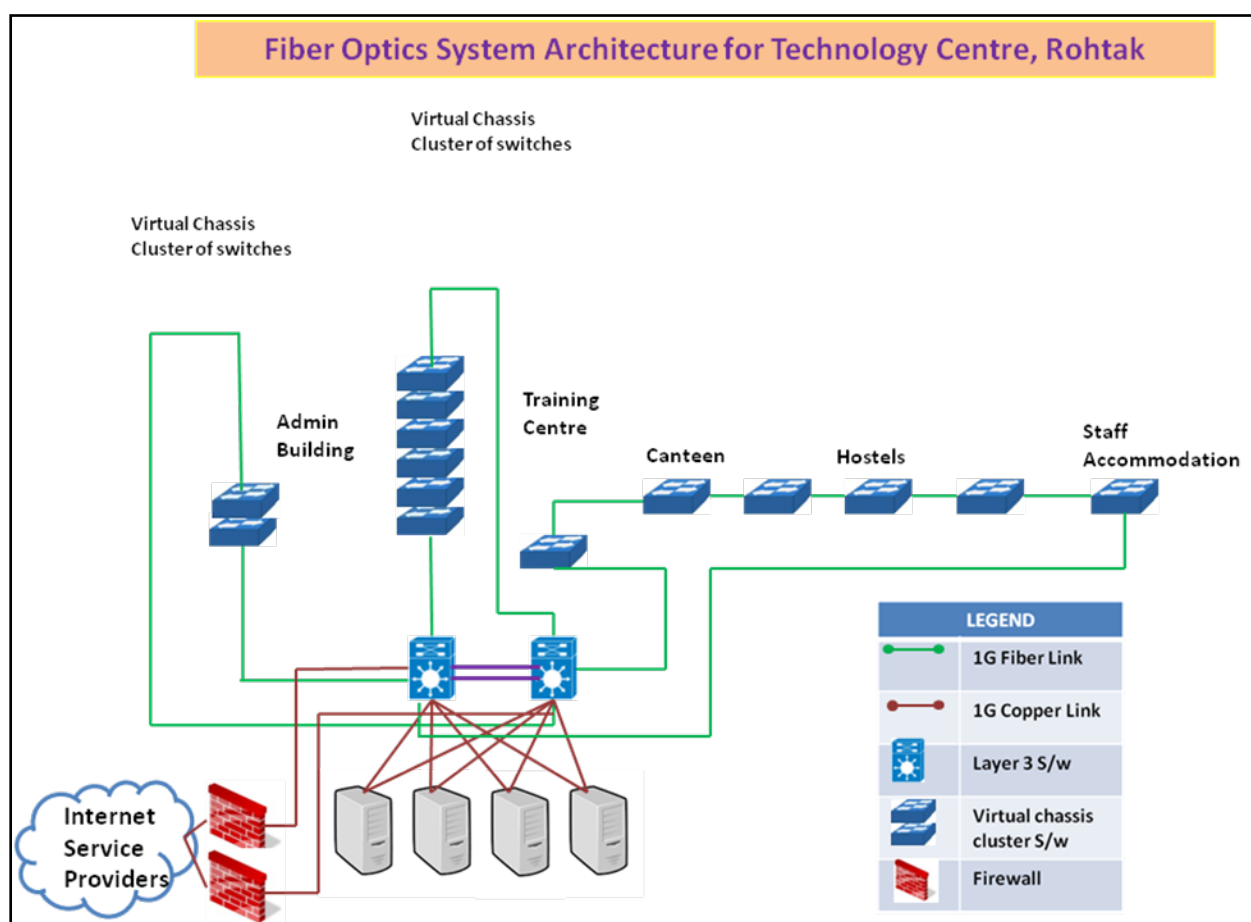

**Figure: 1.1: Architecture Diagram for Data Network**
New Technology Centre (TC) is planned at Rohtak, Haryana. TC shall have building blocks like Admin Building, Canteen Area, Boys Hostel, Girls Hostel and Staff accommodation, Guest House, Utility Area and Training & Production Area. These blocks shall have data connectivity for operating computer System, Network Equipment and also provide connectivity to safety and security system such as CCTV Surveillance system, Access control System, Fire Alarm System, Time & Attendance System and telephone and intercom system for communication. System Architecture for data network is shown in figure 1.1 and data and intercom telephone points are listed in Table 1.1 below.